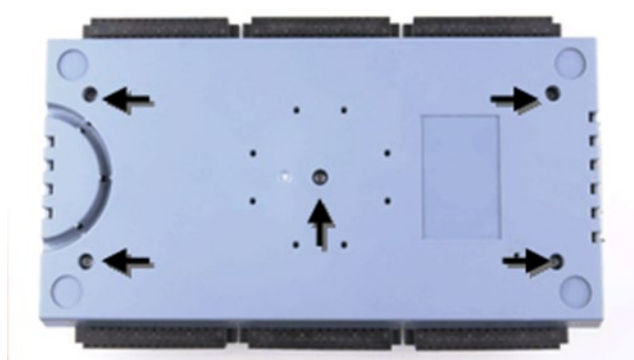

Figure 14. Location of screws connecting bottom and top sections of case
2. Remove the five screws shown in Figure 14 from the bottom of the module.